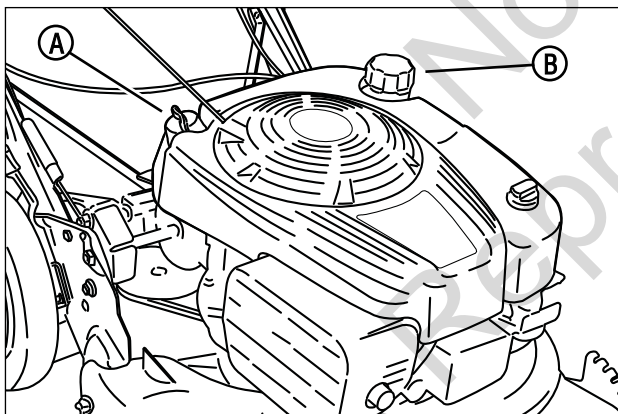

Figure 2: Oil and fuel fill
4. Check the engine oil **(A, Figure 2)** and add oil as needed to bring the level up to the full mark. Refer to the Engine Owner's Manual for oil specifications.
5. Add fuel to the tank after pushing the mower outside where fumes can safely dissipate. Fill the tank to 1-1/2 inches below the top of the filler neck (to allow for fuel expansion). Make sure the cap **(B, Figure 2)** is tightened after fueling. Refer to the Engine Owners Manual for fuel specifications.